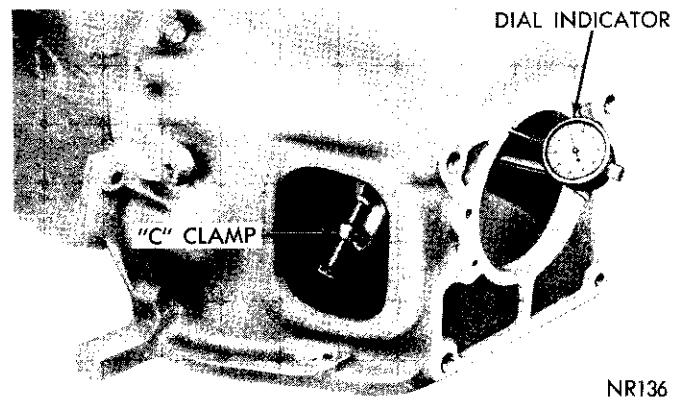

Fig. 11—Measuring Clutch Housing Face Squareness
(1) Relocate dial indicator (Fig. 11) and rotate fly-wheel, using Tool C-771. If total indicator reading is greater than .006 inch, note amount of total indicator reading and location of lowest indicator reading (i.e., point where indicator arm or follower is extended farthest).
(2) To correct squareness, place proper thickness shim stock between clutch housing and engine block or between transmission and clutch housing. After remeasuring face squareness, tighten 7/16 inch housing bolts to 50 foot-pounds and 3/8 inch bolts to 30 foot-pounds.
(3) Install clutch release bearing, fork, linkage and transmission. Adjust clutch linkage.